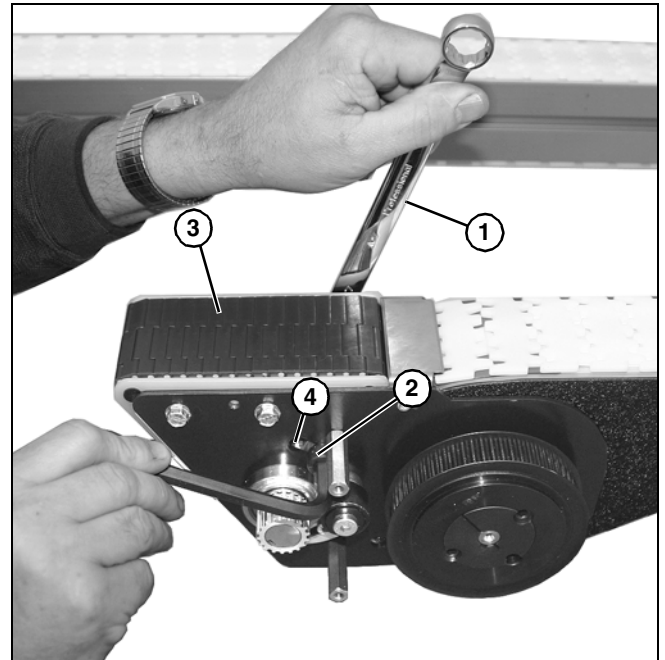

Figure 91
5. While holding onto nut with a wrench (Figure 91, item 1) loosen socket head screw (Figure 91, item 2) to loosen tension on belt (Figure 91, item 3).
6. Slide assembly within slot (Figure 91, item 4) to remove tension on belt.